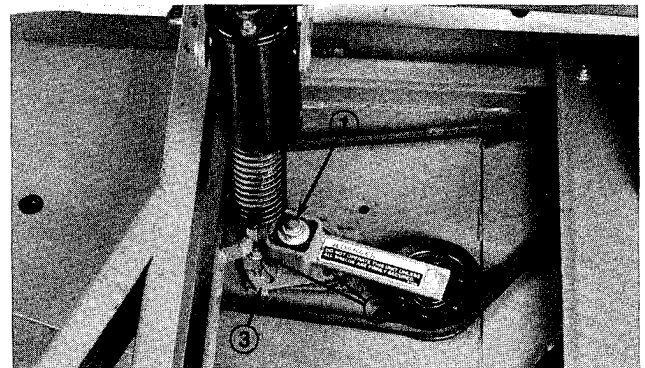

Figure 36
3. Loosen two nuts securing idler plate in place. Using a socket and torque wrench, tighten the idler adjusting nut to 40–50 ft–lb. (Fig. 36).